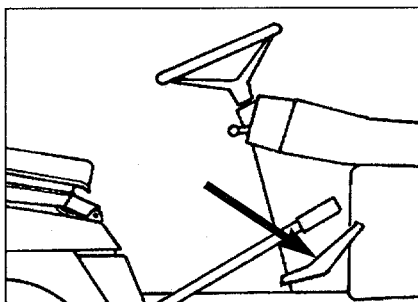

Figure 4-4: The Travel Pedal provides infinitely variable forward and reverse tractor speeds.
4. Place your right foot on the Travel Pedal. See Figure 4-4 below. The Travel Pedal provides infinitely variable speed. To go forward, slowly press the *top* of the Travel Pedal down. To go in